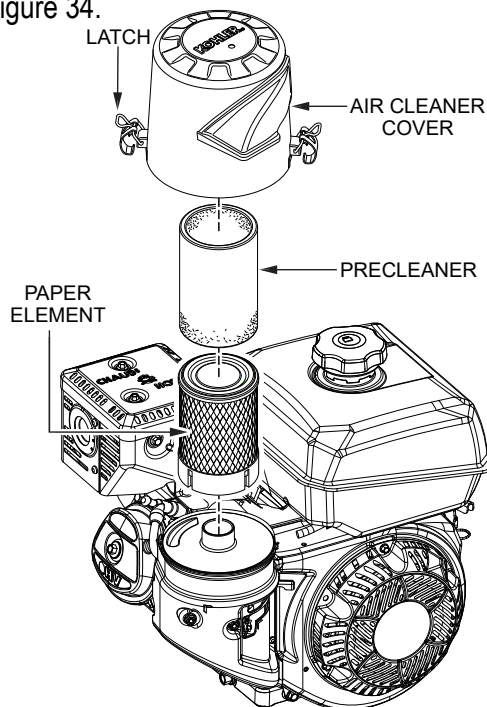

Figure 34. Engine Air Cleaner (Quad-Clean)
1. To remove the air cleaner cover from the base, pull down on the locking latches as referenced in Figure 34.
1. Remove pre-cleaner (foam filter element) as shown in Figure 34.